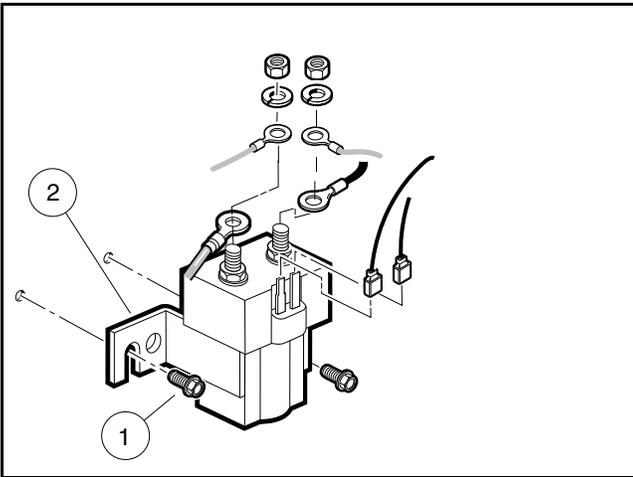

Figure 24-7 Solenoid
3. Disconnect all wires from the solenoid (**Figure 24-7, Page 24-10**).
4. Loosen, but do not remove, the two screws (1) that hold the solenoid (2) to the component mounting plate.
5. Lift the solenoid (2) up and off of the component mounting plate.
1. Mount solenoid (2) onto component mounting plate with screws (1) (**Figure 24-7, Page 24-10**).
2. Tighten screws (1) to 60 in-lb (6.8 N·m).
4. Install the blue/white and light blue wires onto the small terminals of the solenoid (**Figure 24-7, Page 24-10**).